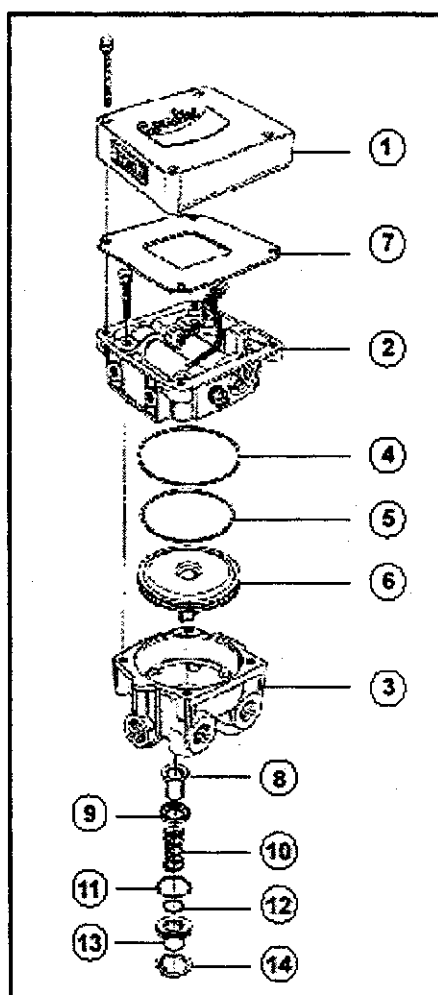

Figure 9—Exploded View
- See Figure 9—Electrical Connector